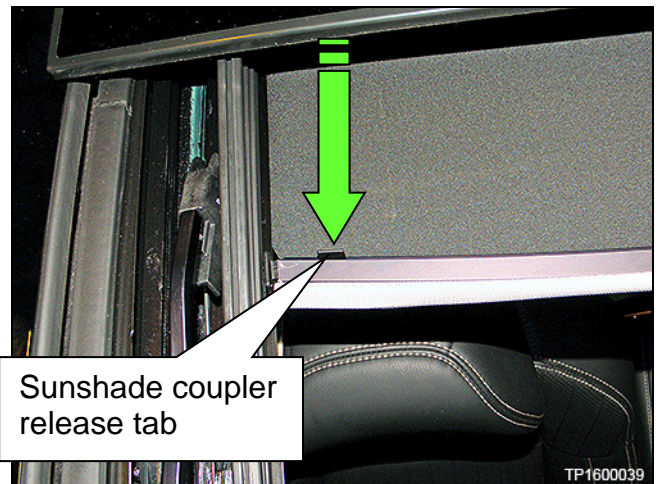
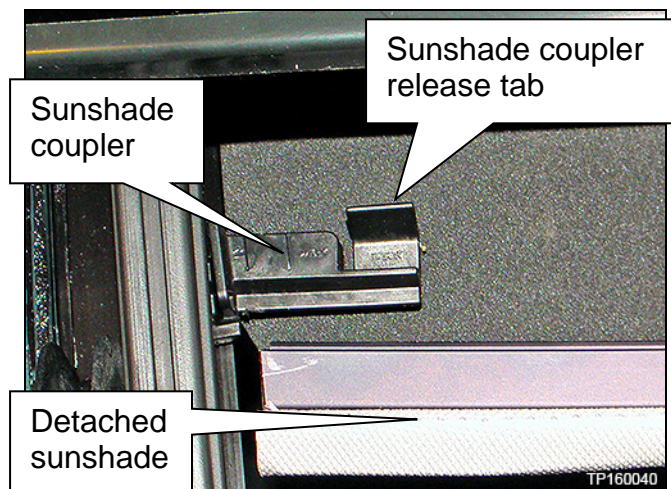

Figure 56
Figure 57
- Figure 56 and Figure 57 show the right side of the front sunshade.
8. Detach the sunshade from the sunshade coupler by pressing the coupler release tab (Figure 56).
- Figure 57 shows sunshade coupler detached.